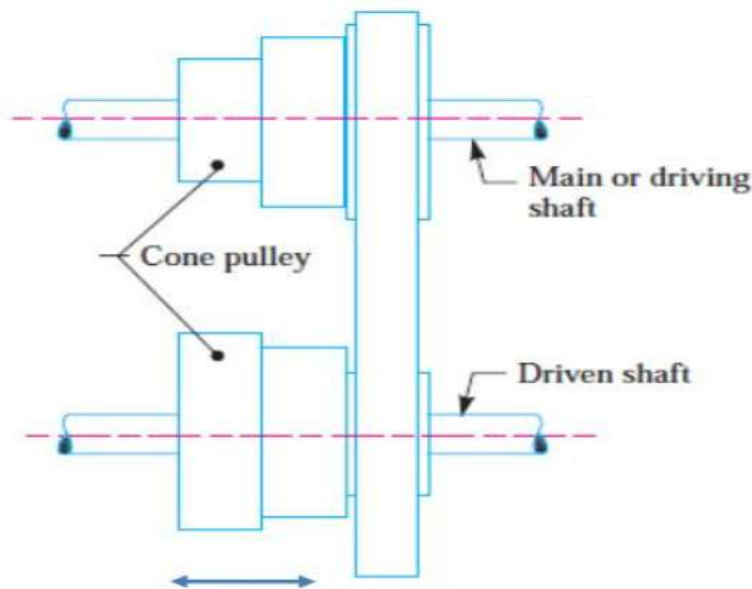

Fig. 10. Stepped or cone pulley drive
- f. *Stepped or cone pulley drive.* A stepped or cone pulley drive, as shown in Fig. 10, is used for changing the speed of the driven shaft while the main or driving shaft runs at constant speed.